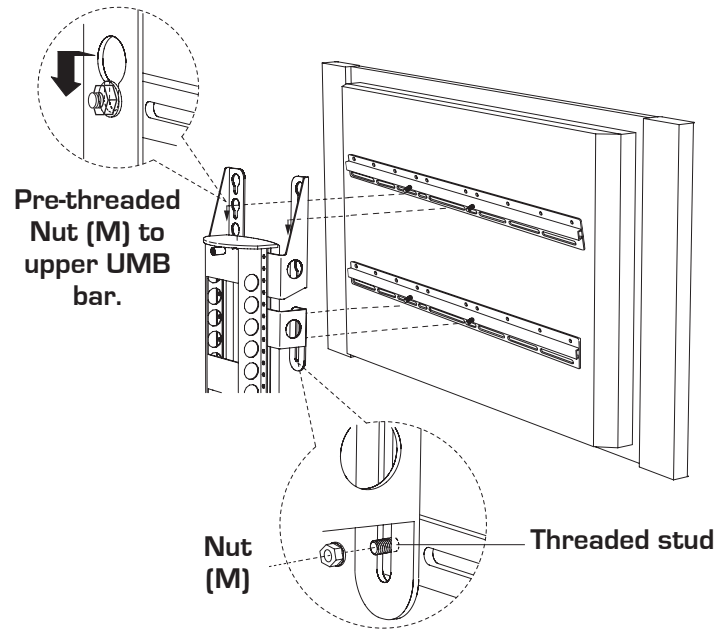

Figure 6
Carefully “hook” TV onto screen brackets as shown (Figure 6). Make sure both pre-threaded nuts drop into key hole slot and that threaded studs go into slot on **Bottom Screen Brackets (HBL & HBR)**. Tighten **Nuts (M)** using wrench. **Note:** Vista will support flat screens up to 225lbs (102kg). **Note:** Vista is NOT designed to support televisions greater than 6” in depth.